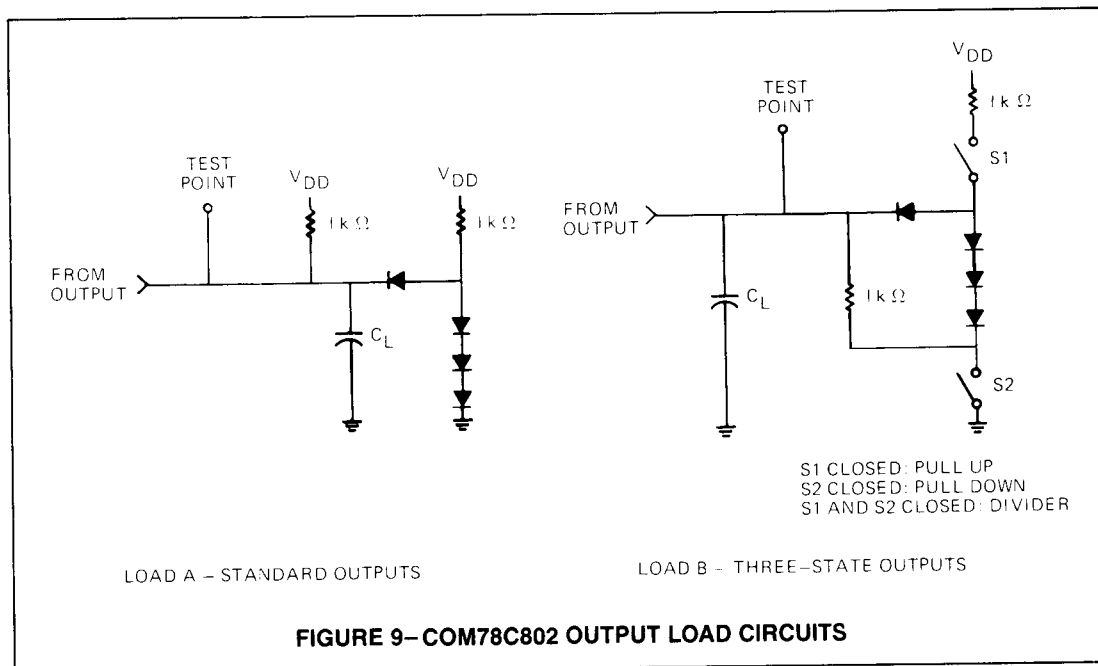

FIGURE 9—COM78C802 OUTPUT LOAD CIRCUITS
¹Refer to Figure 9 for the load circuits used with these measurements.
³Total rise time depends on internal delay plus the pullup delay introduced by the external resistor being used. The t_{ID} parameter can be calculated by the following: t_{ID} = 500 + RC_L, where R = value of the resistor that connects to capacitor C_L in load A, Figure 9.
⁴Total rise time depends on internal delay plus the pullup delay introduced by the external resistor being used. The t_{RDH} parameter can be calculated by the following: t_{RDH} = 75 + RC_L, where R = value of the resistor that connects to capacitor C_L in load A, Figure 9.
- 3 REFER TO FIGURE 9. A = S1 CLOSED. B = S2 CLOSED. C = S1 AND S2 CLOSED.